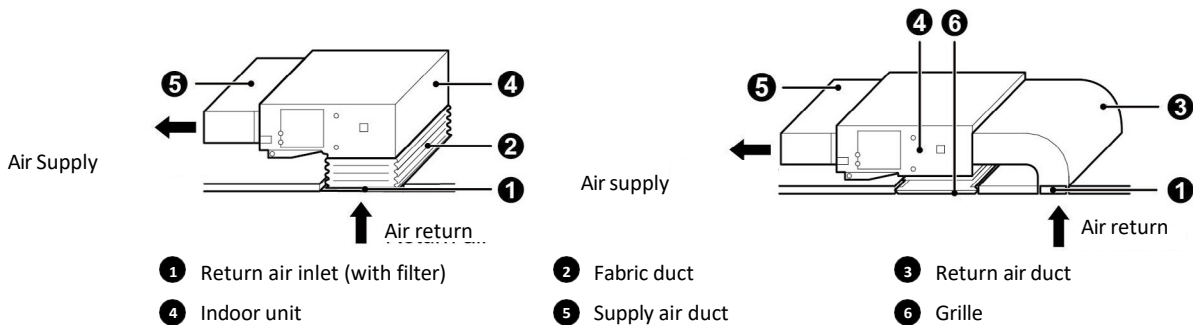

Fig. 4.4.5
② If you want the air return at the bottom, simply switch the positions of the rectangular flange and the air return cover plate.
③ Connect one end of the return air duct to the unit's return air outlet using rivets, and the other end to the return air grille. To allow for easy height adjustment, a section of fabric ducting may be useful. This can be reinforced and bent using 8-gauge wire.
④ A bottom air return is likely to generate more noise than a rear air return, so it is recommended to install a silencer and a static pressure box to minimize noise.
⑤ The installation method can be selected based on building conditions, maintenance requirements, and other factors, as shown in Fig. 4.4.5.